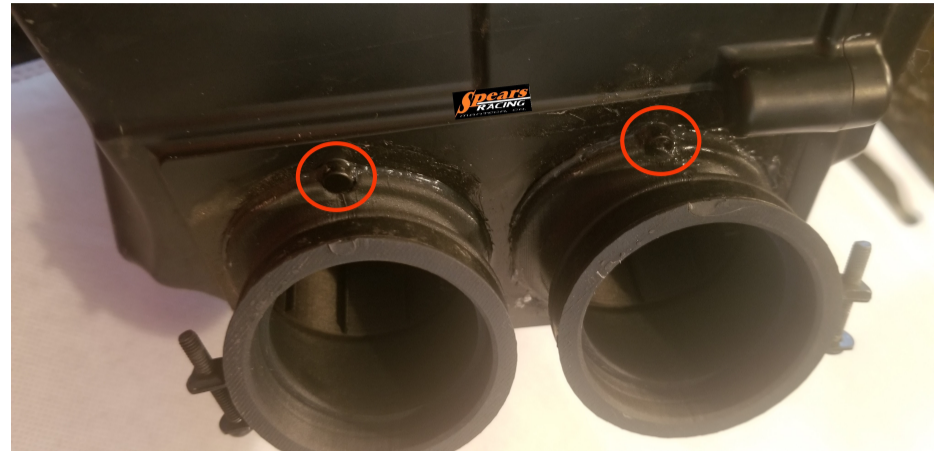

Figure 2: New manifold alignment tabs mated with the airbox alignment tabs.
Step 5: Install the new manifolds in the airbox, lining up the manifold alignment tabs and the airbox alignment tabs (see Figure 2 above).